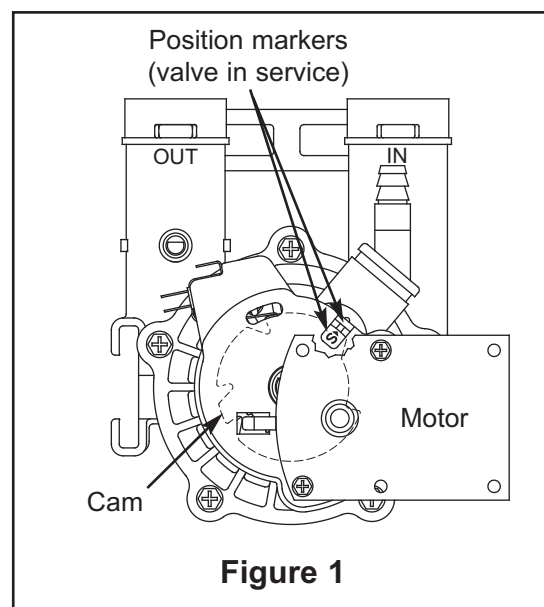

Figure 1
**IMPORTANT:** BE SURE THE VALVE CAM INDICATES "SERVICE" POSITION (See Figure 1) WHEN REPLACING THE ELECTRONIC CONTROL BOARD (PWA), TO ASSURE BOTH VALVE AND PWA ARE ORIENTED, OR TIMED, TO THE SAME CYCLE. If the valve is not in Service position, see step 13 below.